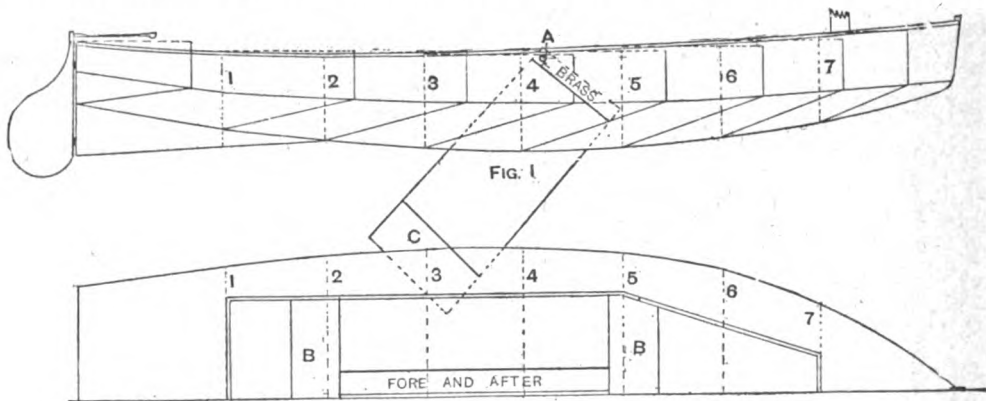

FIG. 2
**18-ft. Sailing Boat.**—The accompanying lines and details are of a boat 18 ft. by 6 ft. by 2 ft., fitted with a centre-board. Fig. 1 shows the sheer and body plans. Fig. 2 is the deck and half-breadth plan showing the arrangement of the well. The illustrations are to a scale of  $\frac{1}{4}$  in. equals 1 ft. The stem is of larch, 3 in. by  $\frac{1}{2}$  in., and the transom either of teak or larch  $\frac{1}{2}$  in. thick. The half section is formed of two yellow pine boards  $\frac{1}{2}$  in. thick, connected at the top of the floor and keel to  $\frac{1}{2}$  in. by  $\frac{1}{2}$  in. pitch-pine fore and afters by means of screws. The timbers are of 3 in. by  $\frac{1}{2}$  in. pitch pine, spaced 1 ft. apart. The centre-board case trunk logs are of  $\frac{1}{2}$  in. by 3 in. oak, and project 12 in. forward and aft of sections 2 and 5 to form scarfs for the centre fore and after. Two uprights, 3 in. by  $\frac{1}{2}$  in., are inserted and secured to the trunk logs. The sides of the case
**Fixing Bands to Band-saw Wheels.**—For fixing a rubber band to a band-saw wheel, cement is used; to make the cement, melt and well mix 1 part of gutta-percha with 2 parts of pitch. Heat the rim of the wheel, give it a thin, hot coat of the composition, and quickly spring on the band. Tightly bind with strong cord the whole breadth of the band, and place aside until the cement is well set. To secure canvas or leather to the rims, first give the rims a thin coat of lead-colour paint and allow it to dry. Soak some good glue in cold water until soft, then dissolve the glue by heating gently in vinegar. Mix with this about one-third of white turpentine, and apply hot to the rim of the wheel; press the canvas tightly on the rim and put aside until the glue is hard. If desired, good brown leather, well stretched, may be used as a substitute for rubber. The ends of the leather should be cut on the slant as at A (Fig. 1), and both ends slightly undercut as at B (Fig. 2). The leather must be of uniform thickness throughout its length and breadth, or frequent breakages of saws will occur. In fixing the leather on the wheels the following method may be adopted. Place a batten C (Fig. 2) on the floor, and the leather D on the batten. One person with a brush should coat the rim of the wheel with the glue, while another rolls the wheel on the strip of leather, pressing the wheel firmly while it is being turned (see Fig. 2). See that the ends of the leather are glued so as to make a good join. After the leather is fixed on the wheel, bind it with strong cord, place aside, or hang in position on the machine until the glue is hard; then